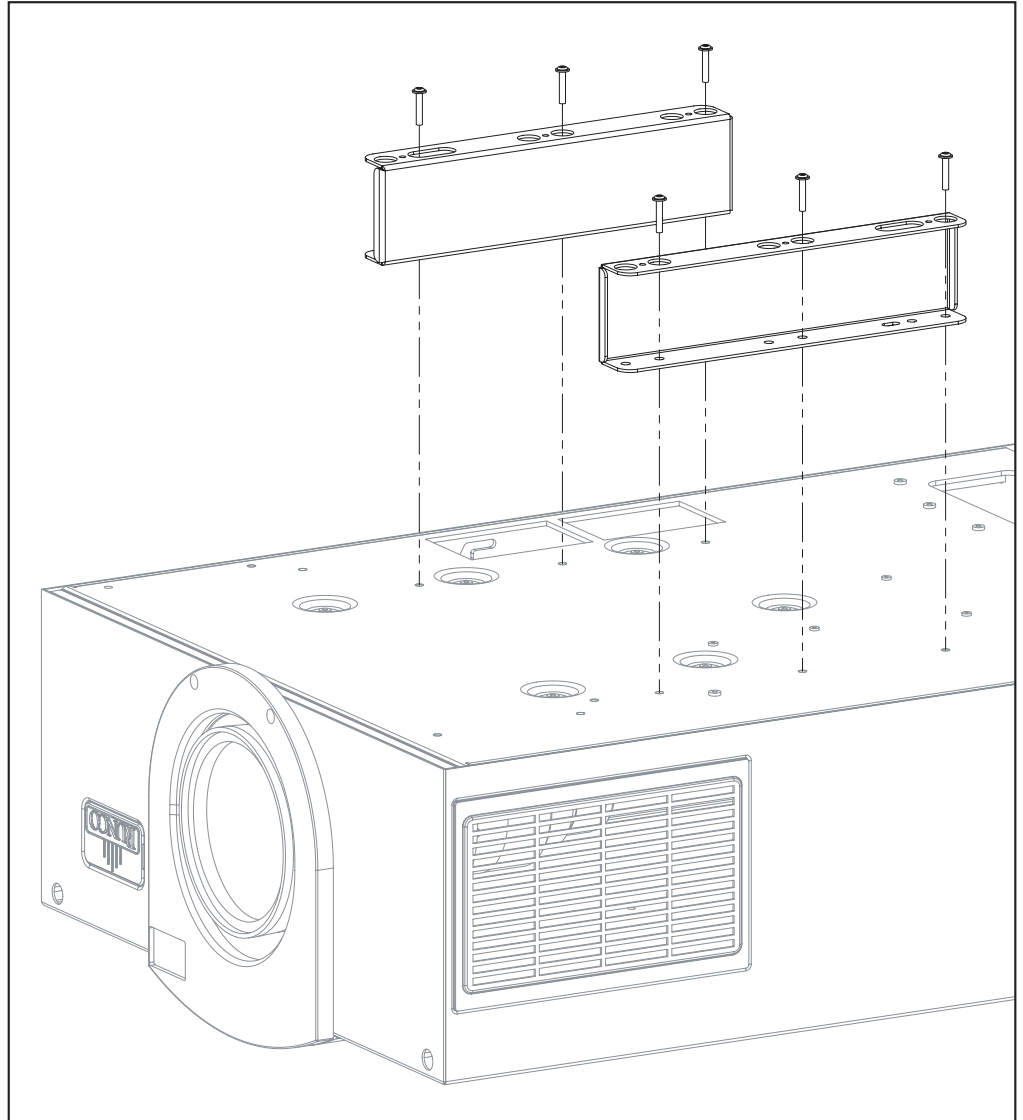

Figure 3-7. VX-33i with Ceiling Mount Adapters/Projector Stands
Using six (6) each of the supplied, M6 x 12mm Pan-Head Phillips screws (item #2), attach the AutoScope Ceiling Mount Adapters/Projector Stands (items #3 and #4) to the projector as shown in Figure 3-7.